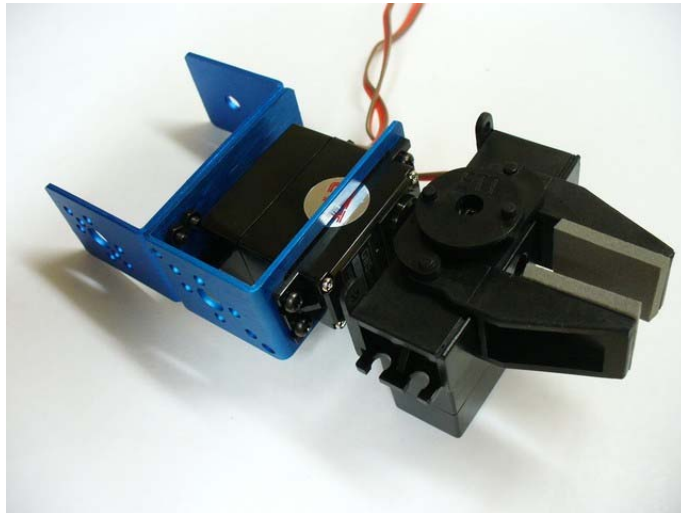

Figure 6 The servo motor #5 is attached to the connected R-joint servo.
4. Attach the servo motor #5 to the U-shape part of the R-Joint Servo as shown in Figure 6.